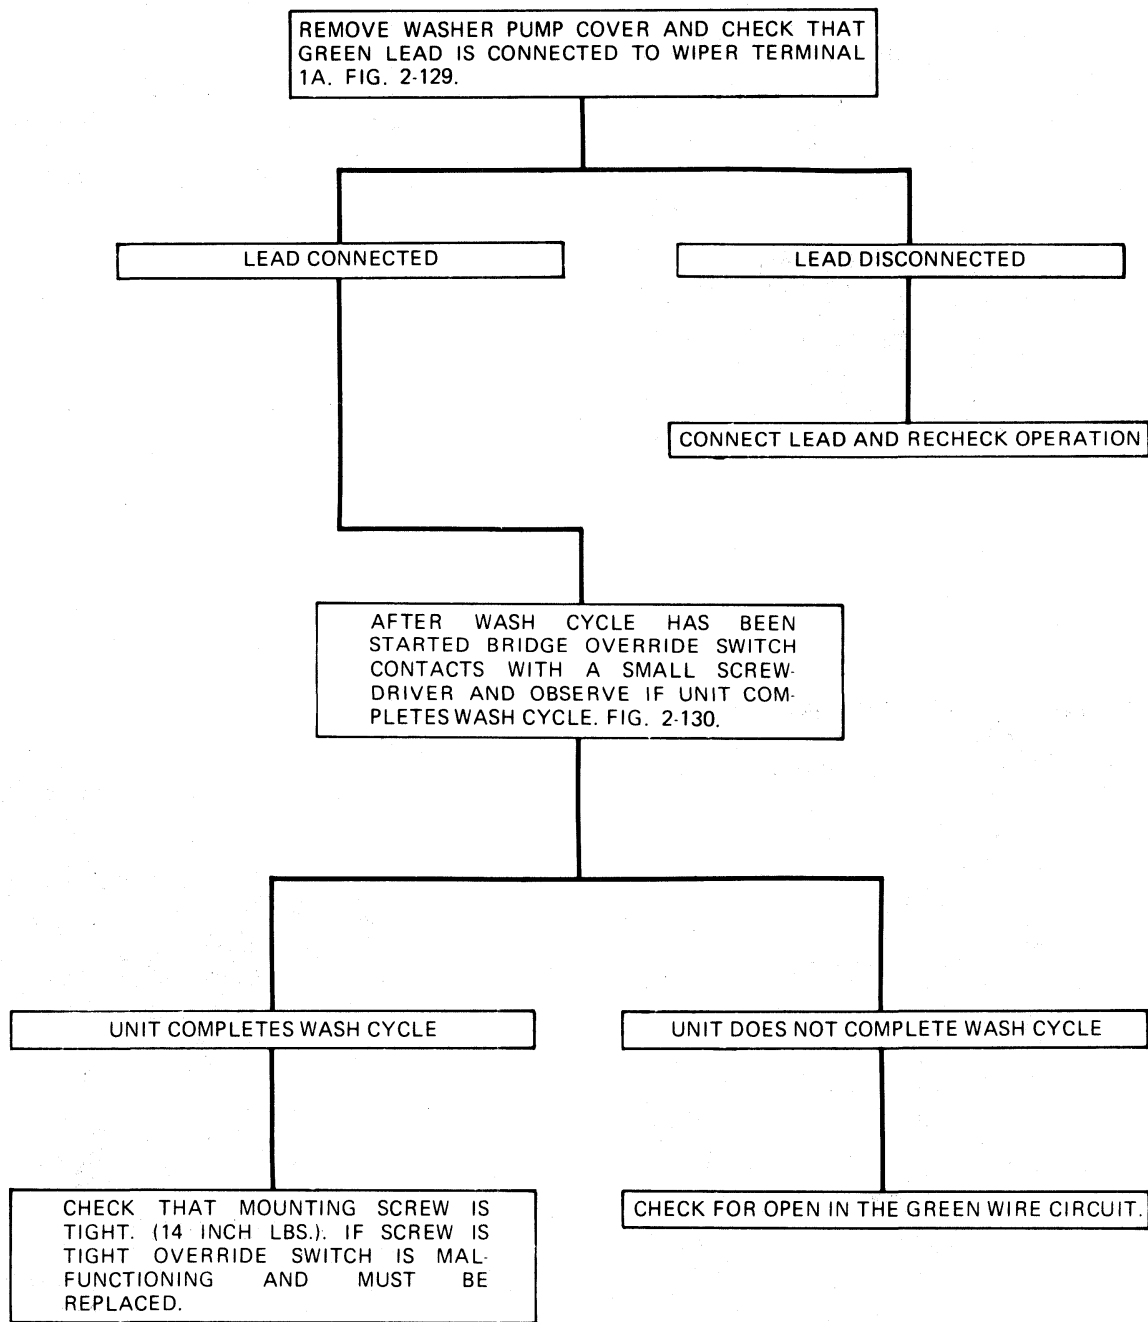

Fig. 2-124-Modified Pulse Washer System - Diagnosis Chart - Condition 3
3. Wiper shuts off before wash cycle is completed. (Blades start out of park position, pump delivers one "squirt", and blades return to park position).	Fig. 2-124